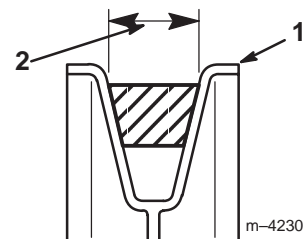

Figure 19
4. Ensure that the wide side of the PTO drive belt is toward the outside diameter of all six pulleys (Fig. 19).